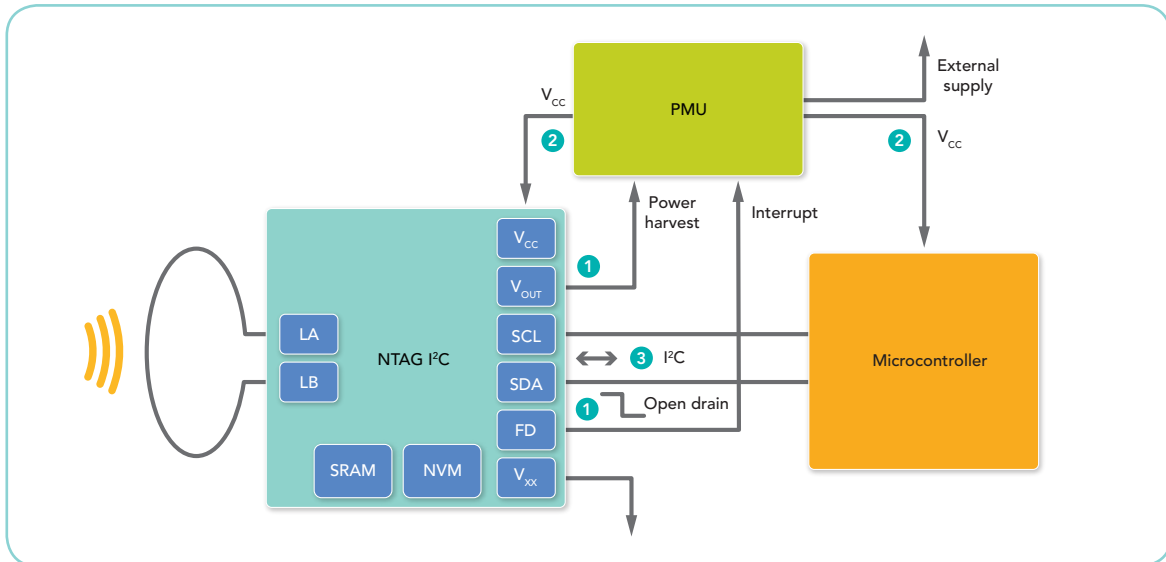

Figure 14. NTAG I²C tag chip field detect and power harvesting block diagram
The NTAG I²C tag chip's energy harvesting capability and Field Detect (FD) functions work together to help support power management. Upon application of the RF field to the antenna, the FD output asserts low, and the energy harvested by the NTAG I²C tag chip from the RF field is output (V_{OUT}) to a Power Management Unit (PMU) (Figure 14 [1]). The PMU distributes received power to both the NTAG I²C tag chip and the microcontroller (Figure 14 [2]), which allows the I²C bus to become active (Figure 14 [3]), enabling communication. Alternatively, the power harvested by the NTAG I²C tag chip can also be applied directly as a source of power for devices requiring less energy, such as low power microcontrollers, sensors and indicators.